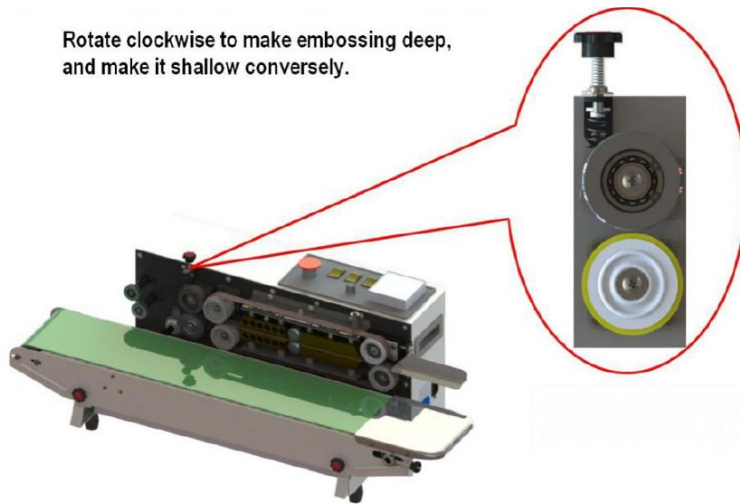

Figure 11. Adjusting the embossing wheel
3. Adjust the pressure knob **Figure 11** to change the pattern of the embossing wheel on your band sealer.